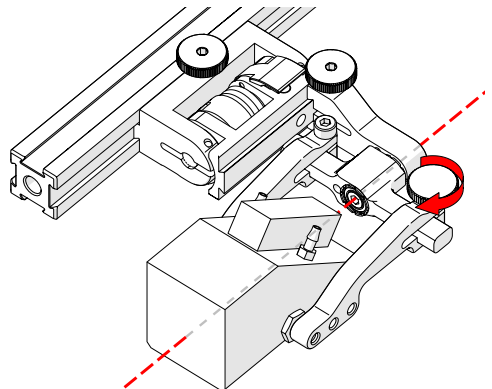

Fig. 60 - Pinch wedge with arm
9. Tighten the probe holder arm adjustment knob (Fig. 60).